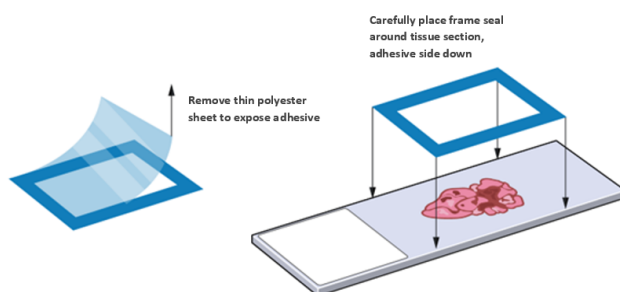

Figure 43: Apply Incubation Frame
4. Apply the incubation frame (Figure 43).